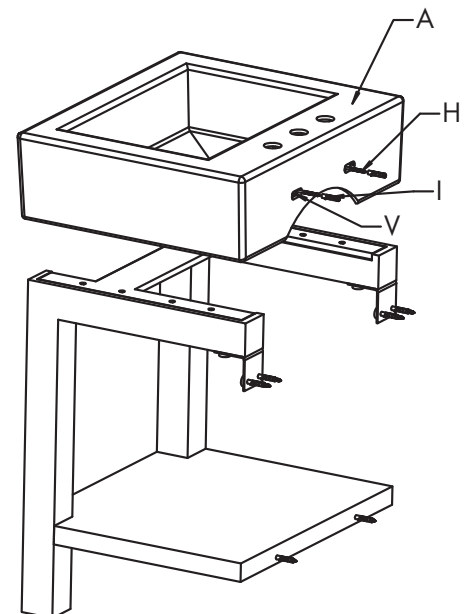

Figure 6
- Place **Vessel (A)** on base, center and level. Mark **Wall Screw** locations through Vessel mounting holes.
- Drill holes, insert **Anchors**, and attach **Vessel** to wall using **Wall Screws** through **Washer (V)**.
- Refer to Figure 6.